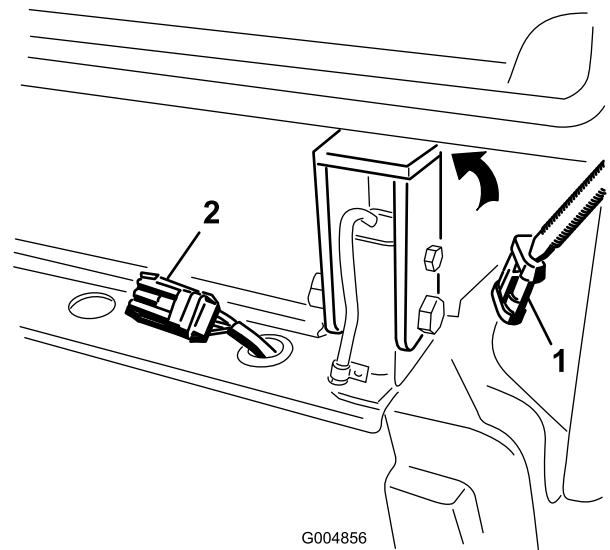

Figure 67
3. Remove the cap and plug the cab wire harness connector into the harness on the rear frame mount (Figure 67).